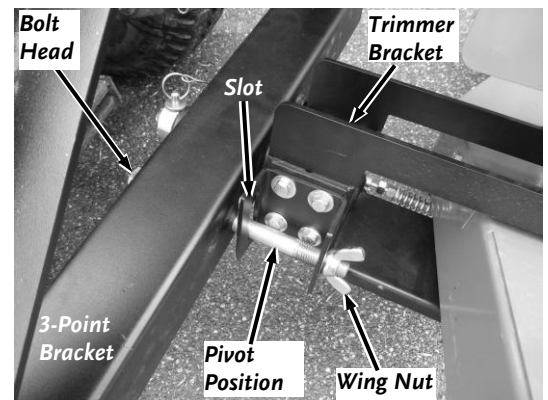

Figure 27
1. Install the Bolt into the left side "slots" location through the 3-Point Bracket and Trimmer Bracket (**Figure 27**).